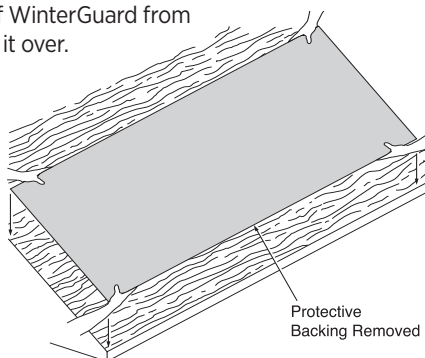

Figure 5-7: Application using the "Fly-In" Method.
4. Drop or "fly" the sheet into place, using great care to assure correct placement (Figure 5-7).